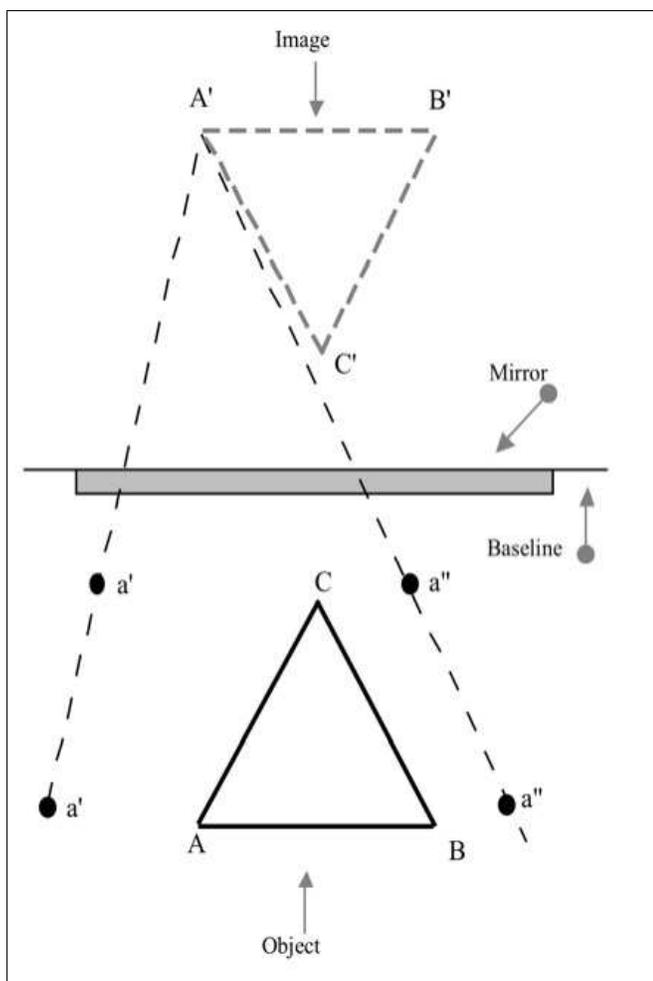

Figure 21.7: Image from a Mirror
13. Refer to Fig. 21.7. Draw a baseline across the center of a sheet of paper. Place the triangular plexiglass in the center of the front half of the paper, trace around it, then return it to the kit. Label the vertices of the triangle A , B , and C . Place the paper on the corkboard and the mirror on the baseline.
15. Consider Fig. 21.7. Two points are required to designate a particular line (e.g., two a' or two a''). (Always separate the pins as much as possible to improve your results.) Two intersecting lines designate a particular point (e.g., A').